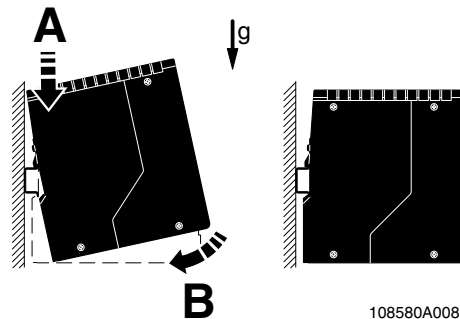

Figure 3-2 Mounting the RFC 4072S
- Place the RFC onto the DIN rail from above (A in Figure 3-2).
- Tilt the RFC downwards until the spring-loaded holder on the back of the device snaps into place with a click (B).